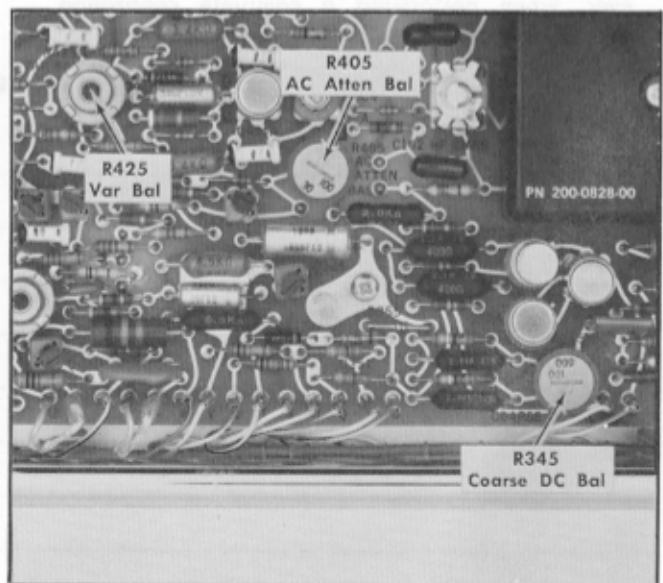

Fig. 5-2. Location of controls used in steps 1 through 3.
e. ADJUST—AC Atten Bal control, R405, (see Fig. 5-2) to position the trace within 1.5 divisions of graticule center.
- f. ADJUST—Variable Bal control, R425, (See Fig. 5-2) for no trace shift while rotating the VARIABLE control throughout its range.
- e. ADJUST—Coarse DC Bal, R345 (See Fig. 5-2) to position the trace to graticule center.